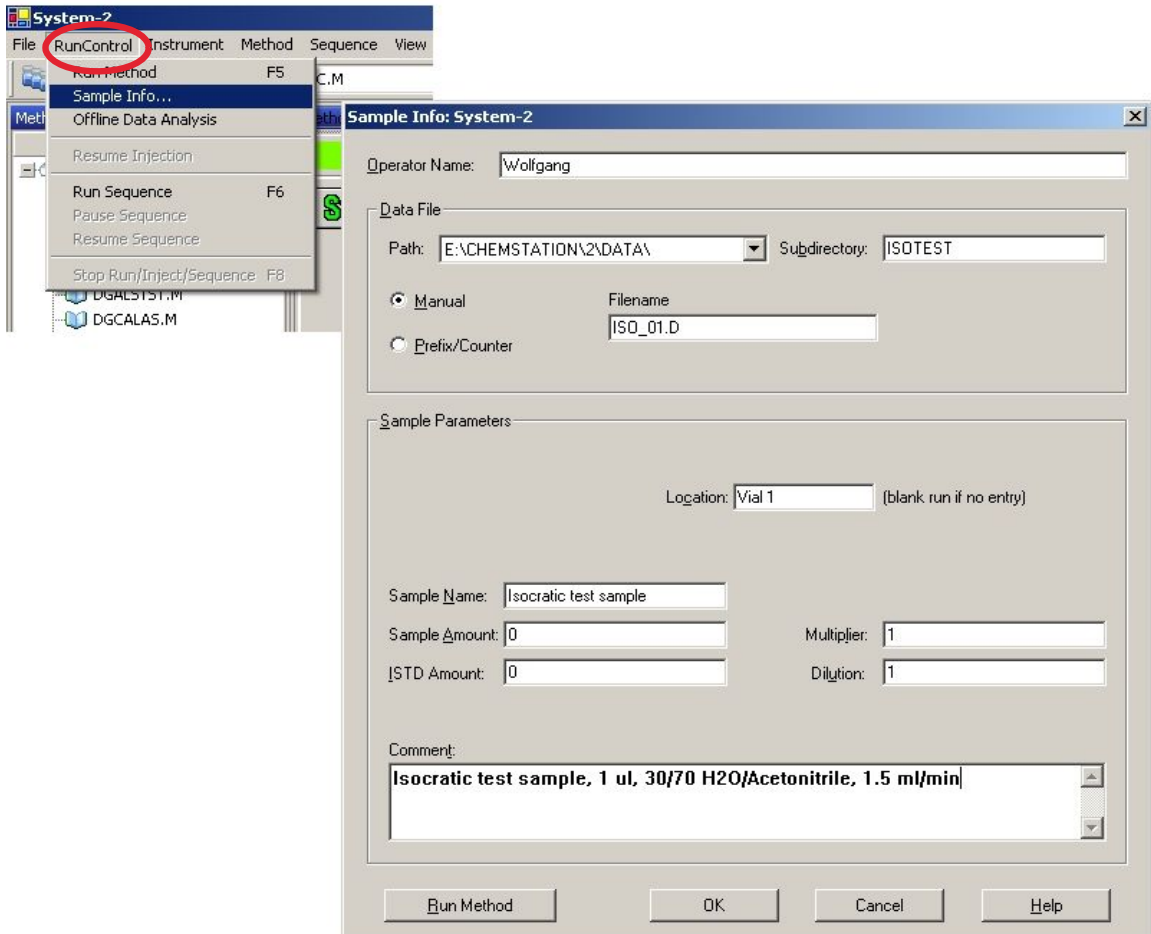

Figure 25 Sample Information
- 14 Select the menu item **RunControl** > **Sample Info** and enter information about this application (Figure 25 on page 69). Press **OK** to leave this screen.